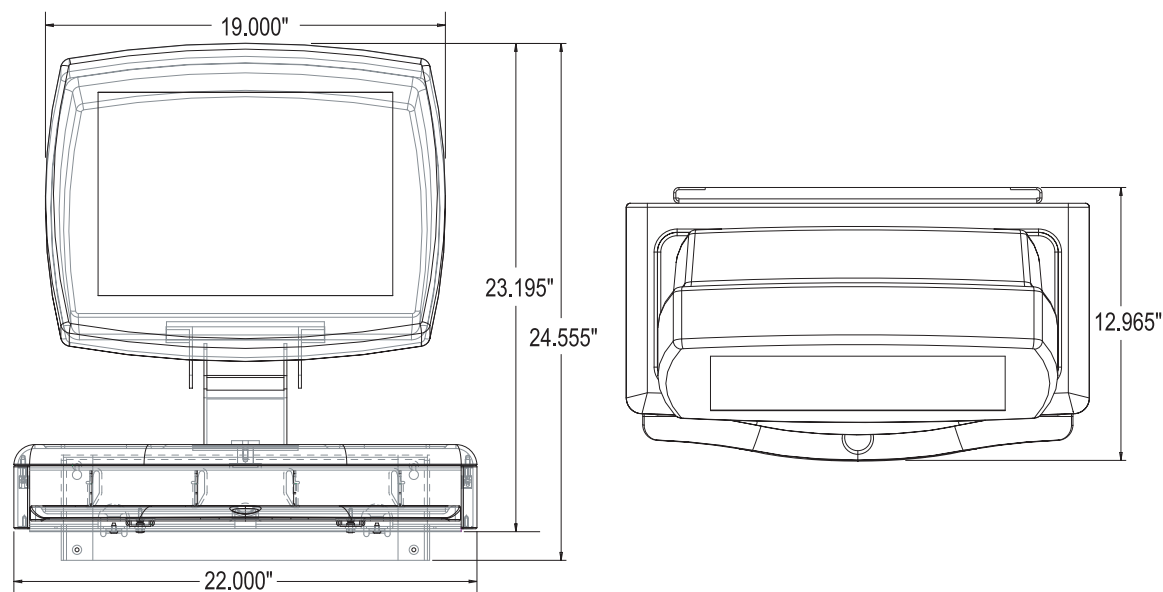

Figure 3-3 IUI Keyboard Garage Dimensions
- Operator Console (IUI) - Figure 3-2, Figure 3-3 and Figure 3-5